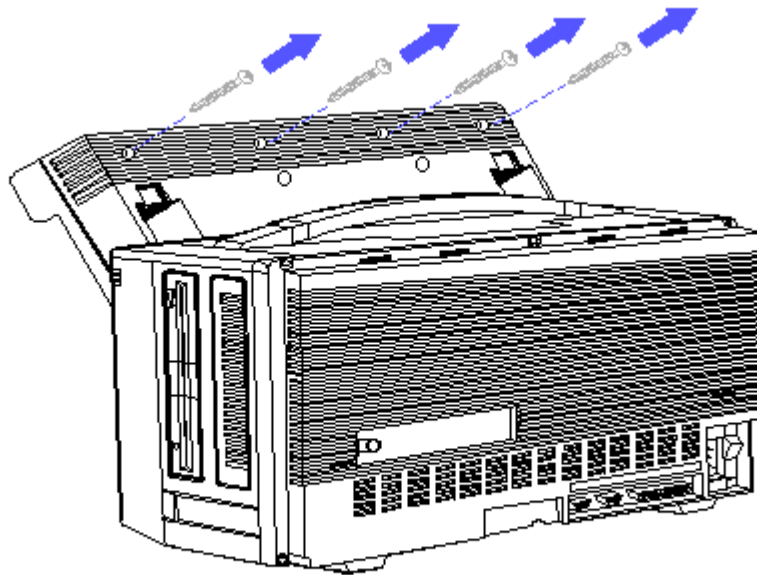

Figure 8-70. Removing the Display Enclosure Screws
3. While holding the display bezel in place with one hand, remove the four screws that secure the display bezel to the display enclosure. These screws are located on the back of the display enclosure (Figure 8-70).